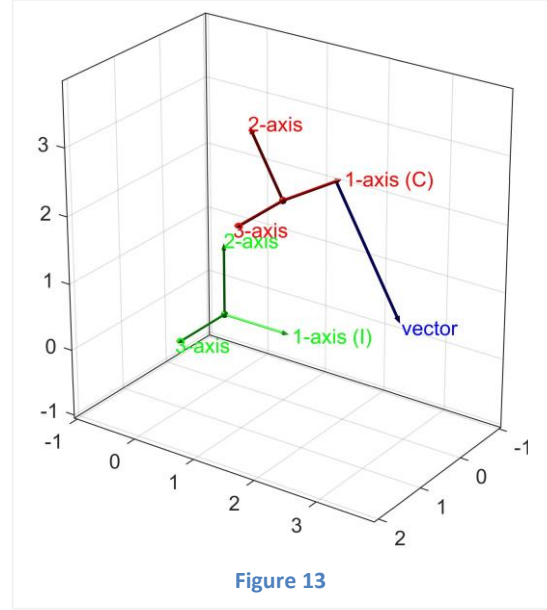

Figure 13
- ☒ Complete the class files to learn how to use set functions in Matlab and to do the necessary transformations. To test them, you can run the file *TestFile\_11\_BoundVectorAndCoSys.m*. It should get you the graph in Figure 13.